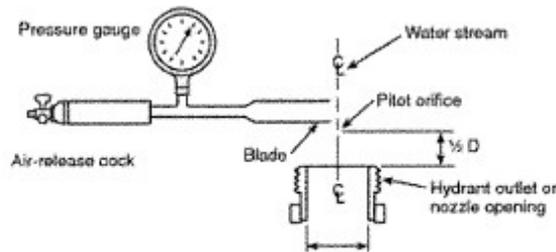

FIGURE 4.6.9 Pitot Tube Position.
- i. With wet barrel hydrants, the valve for the flowing outlet should be wide open to give a more streamlined flow and a more accurate pitot reading (See figure 4.6.9 Pitot Tube Position).